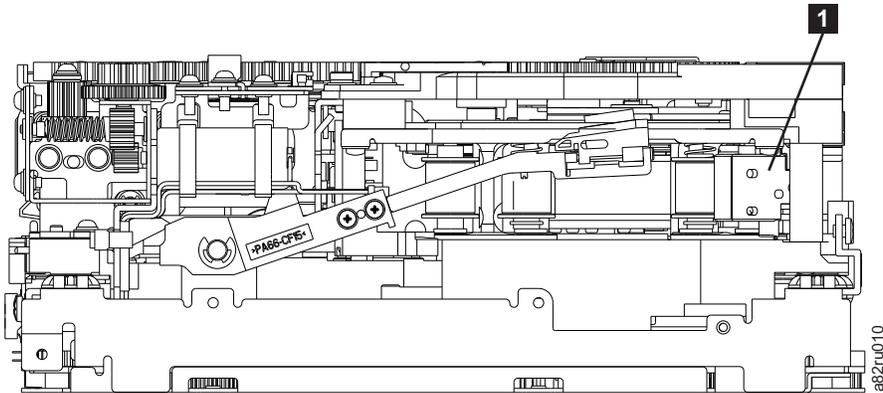

Figure A-17. Leader Block Assembly (LBA)
10. Rotate the threader motor worm gear ( **4** in Figure A-16 on page A-17) to turn the threader mechanism gear ( **6** in Figure A-16 on page A-17) counterclockwise. This action moves the LBA out of the cartridge and past the read/write head. Stop this rotation when the LBA is near the tape guide roller nearest the rear of the drive that is shown as **1** Figure A-17.